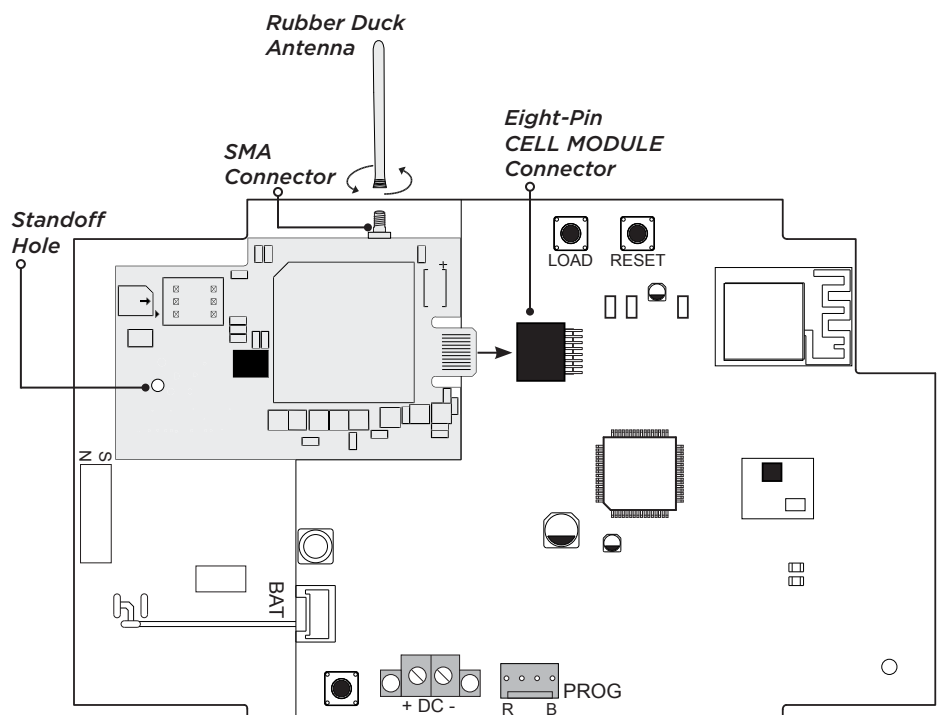

Figure 2: Install the 265H on the XTLplus
5. Align the standoff hole in the 265H with the standoff on the XTLplus and snap it into place. See Figure 2.